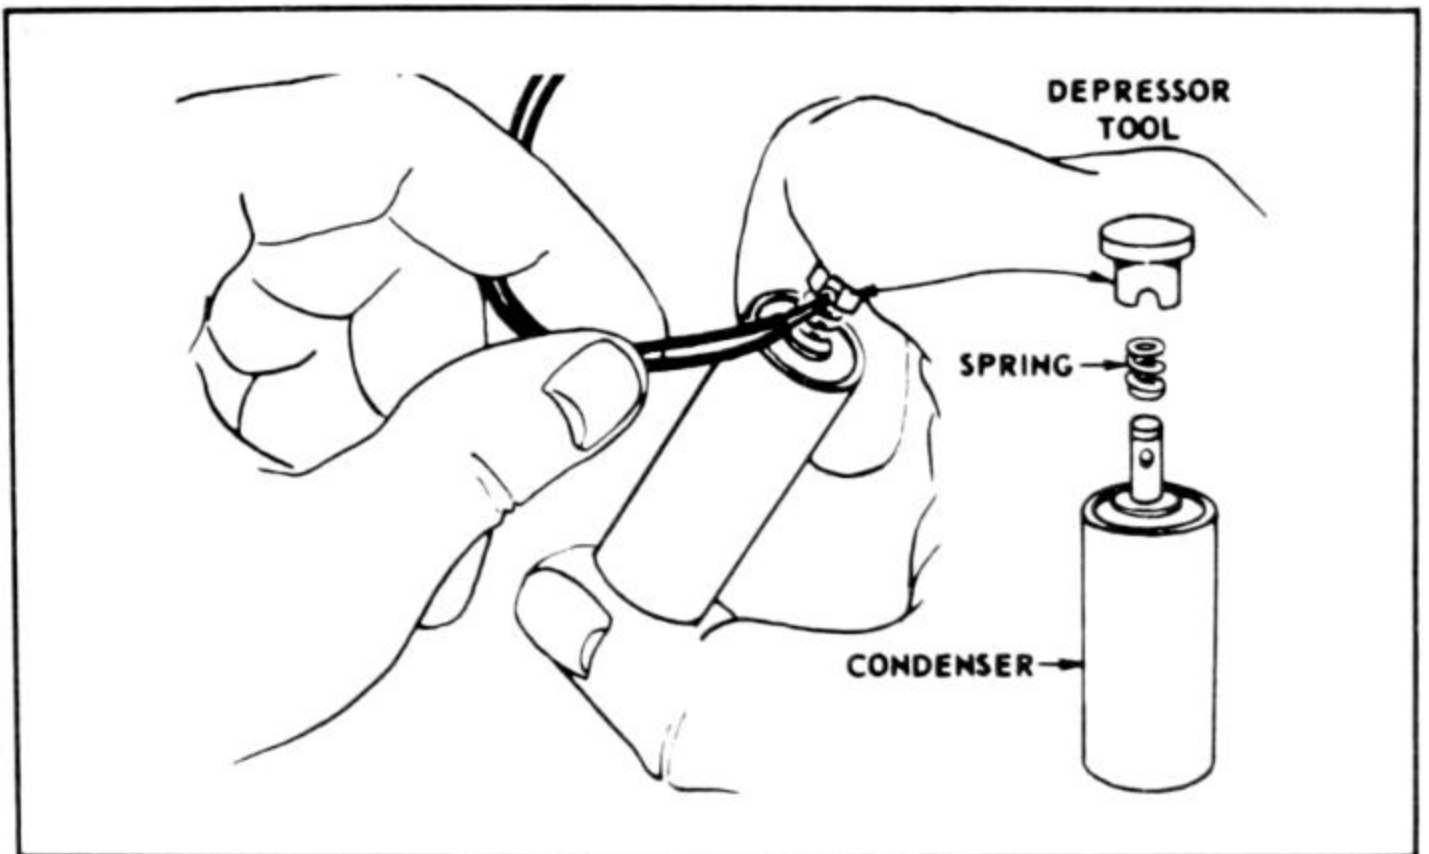

Fig. 2-28. A depressor tool, packed in Briggs & Stratton replacement point sets, should be part of a small engine mechanic's tool kit.
Step 12. Using the depressor tool, install the coil and kill switch wires on the condenser terminal (Fig. 2-28).